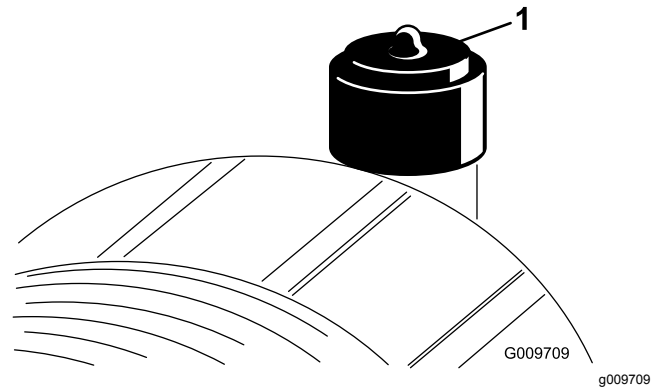

Figure 72
Service the air-cleaner filter only when the service indicator (Figure 72) requires it. Changing the air filter before it is necessary only increases the chance of dirt entering the engine when the filter is removed.
9. Reset the indicator (Figure 72) if it shows red.